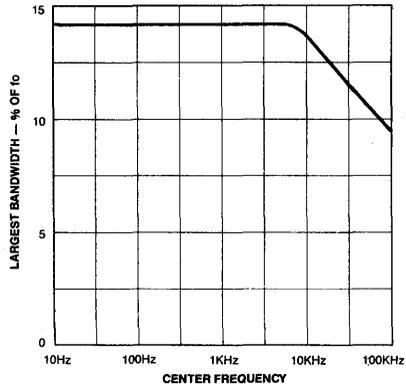

FIG 10. DETECTION BANDWIDTH
The selection of C2 is determined by the detection bandwidth requirements, as shown in Fig 10. For additional information see section on "Definition of Device Parameters."
2. Low-pass capacitor, C2, can be determined from the bandwidth versus input signal amplitude graph of Fig 10. One approach is to select an area of operation from the graph, and then adjust the input level and value of C2 accordingly. Or if the input amplitude variation is known, the required $f_0 C2$ product can be found to give the desired bandwidth. Constant bandwidth operation requires $V_i > 200mV_{rms}$. Then, as noted on the graph, bandwidth will be controlled solely by the $f_0 C2$ product.